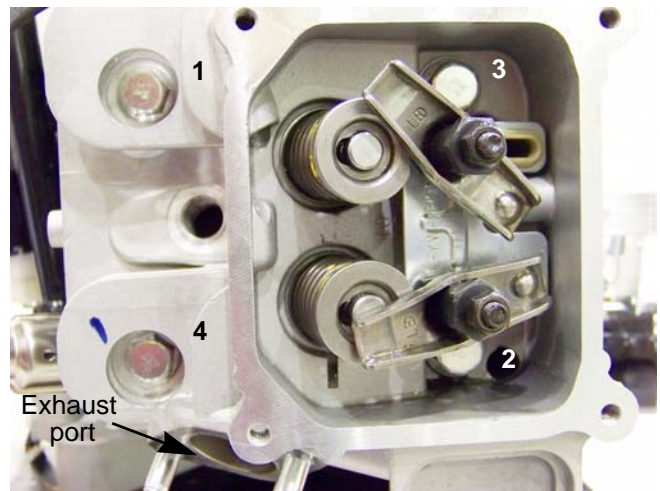

Figure 9.8
3. Install the 4 head bolts, and tighten them to a step torque of 41 - 44 ft lbs. (55 - 60 Nm) in an alternating diagonal pattern. See Figure 9.8.